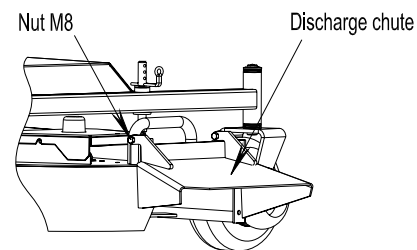

FIG7
- Discharge Chute: Loosen two nuts M8 attaching discharge chute.Lower the discharge chute into position. Retighten nuts until chute is snug but can pivot freely. See FIG7